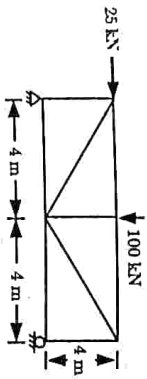

Fig. 2.6.1.
**Que 2.6.** Determine the force in all the members of the truss shown in Fig. 2.6.1.